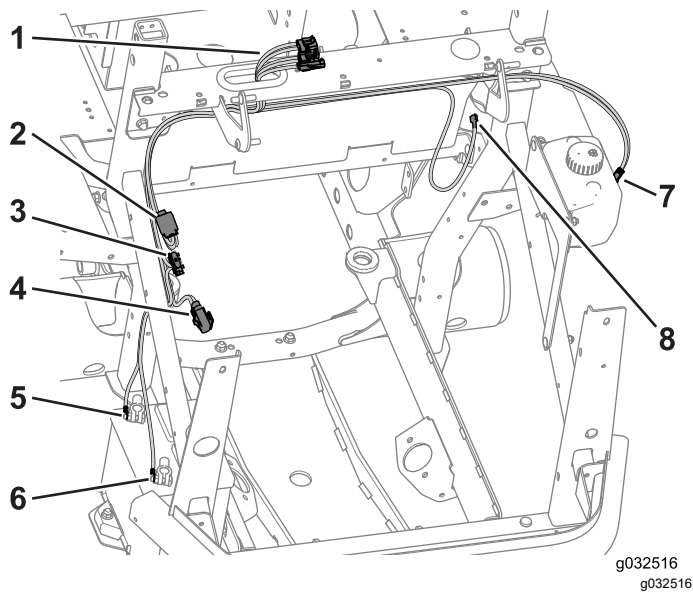

Figure 39
1. Route the 3 cab connectors through the grommet (Figure 39).
2. Route the auxiliary-power wire across the frame support, down along the ROPS tube, and toward the operator controls (Figure 39).
3. Route the washer wire across the frame support, down along the ROPS tube, and toward the washer bottle (Figure 39).